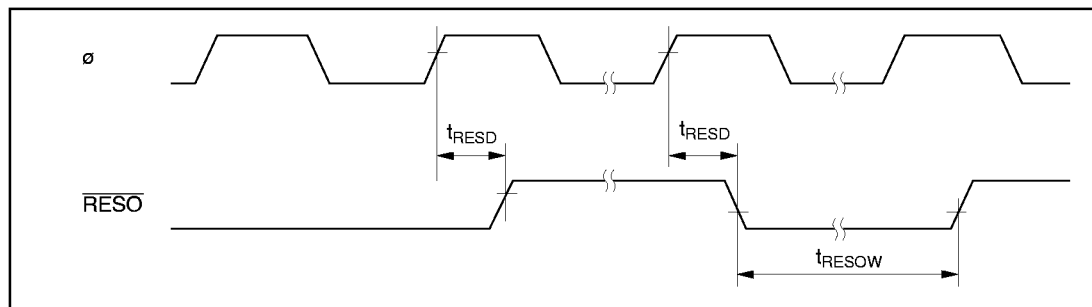

Figure 22-22 Reset Output Timing
22.3.10 Reset Output Timing	Figure 22-22